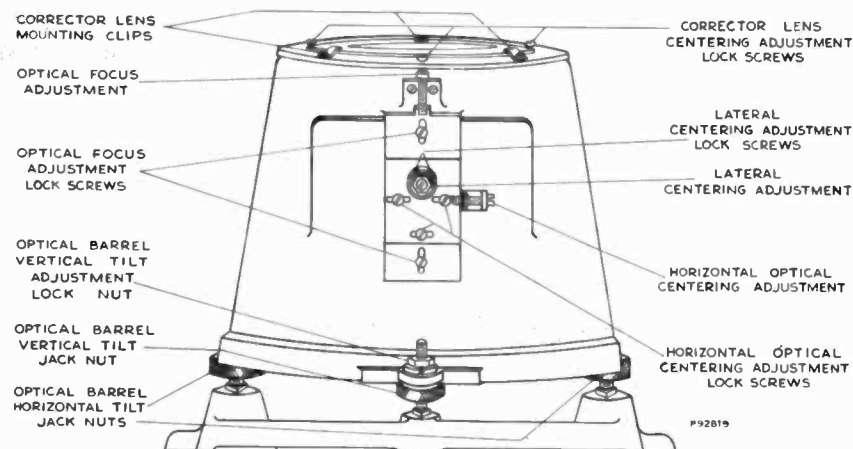

Figure 4—Optical Barrel Adjustments
Caution: Handle the corrector lens with care. This lens is made of a plastic material, is soft and can be easily scratched by improper handling or even by rubbing with a cloth. Do not use cleaning fluid on the lens as it may be attacked by some of the chemicals used in such solutions. In short, the lens should be given the care due any precision optical equipment. Remove the corrector lens from the top of the optical barrel by loosening the three screws holding the clamp springs as shown in Figure 4. Caution: Do not loosen the three screws holding the corrector lens mounting plate.
**Optical Barrel Tilt Alignment**—Turn the optical focus adjustment counterclockwise until the picture is out of focus then clockwise until the picture begins to come in focus. If one side comes into focus before the rest of the picture, it indicates that that side of the optical barrel should be raised. Loosen the lock nuts and turn the inner jack nuts, shown in Figure 4, to raise that side of the barrel and the other jack nut down to lower the other side of the barrel, until both sides of the picture come into focus at the same time.